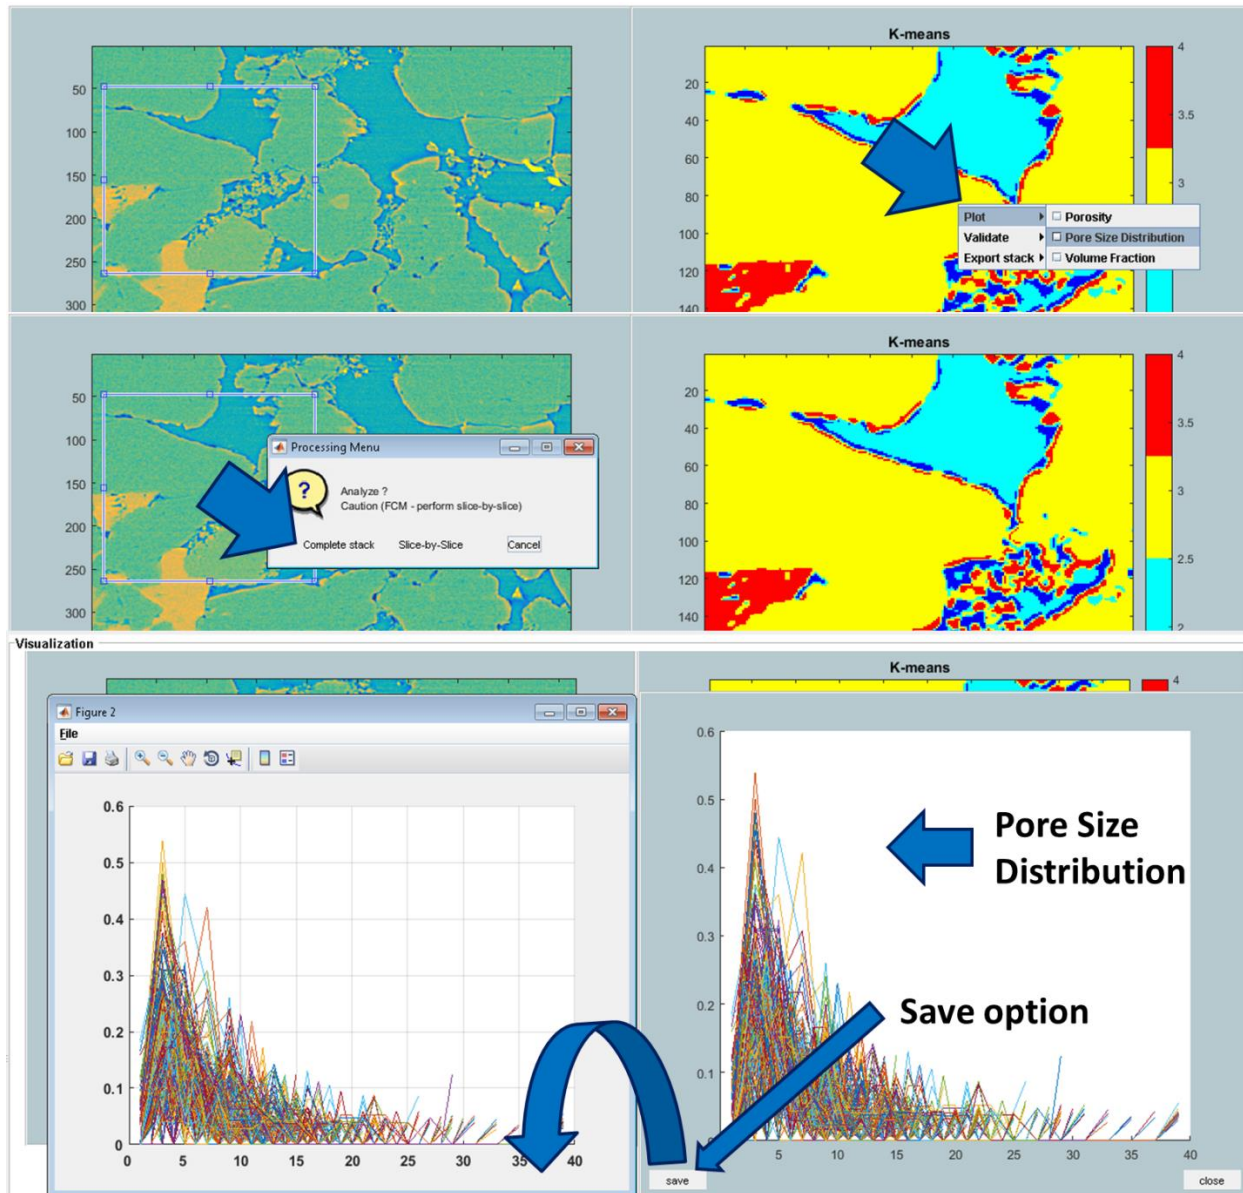

Figure 36: Pore size distribution of complete stack
- Figure 36 displays the steps to retrieve the PSD of the REV and the option to save the plot.